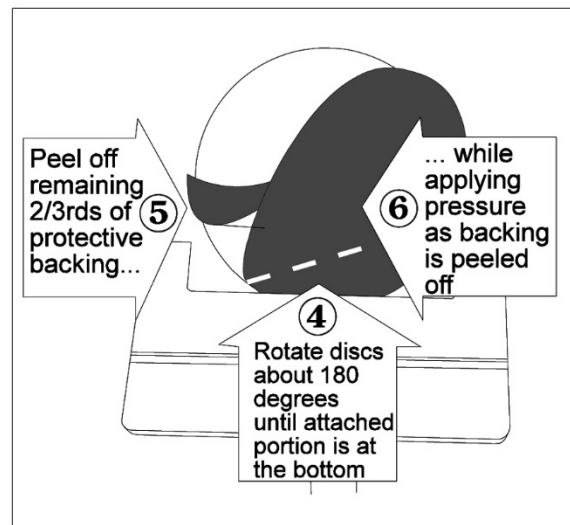

Figure 13: Replacing a grinding disc
9. Rotate the drive disc 180 degrees. See Figure 13. The part of the grinding disc which is attached to the drive disc will now be at the bottom of the drive disc, and will be slightly hidden behind the table.